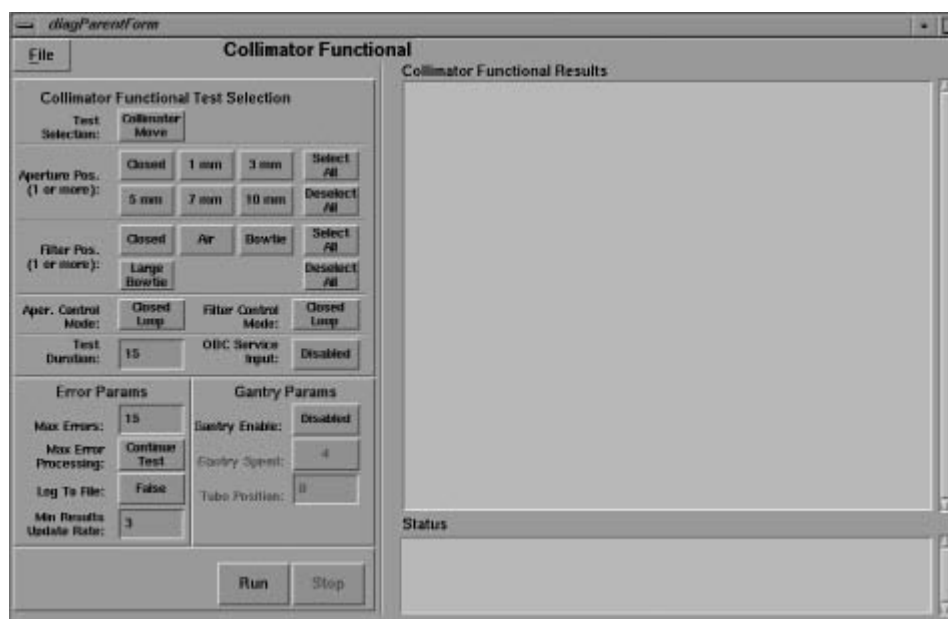

Figure 4-5 COLLIMATOR FUNCTIONAL TEST SCREEN
- 3.) Select COLLIMATOR & FILTER softkey. See Figure 4-5.